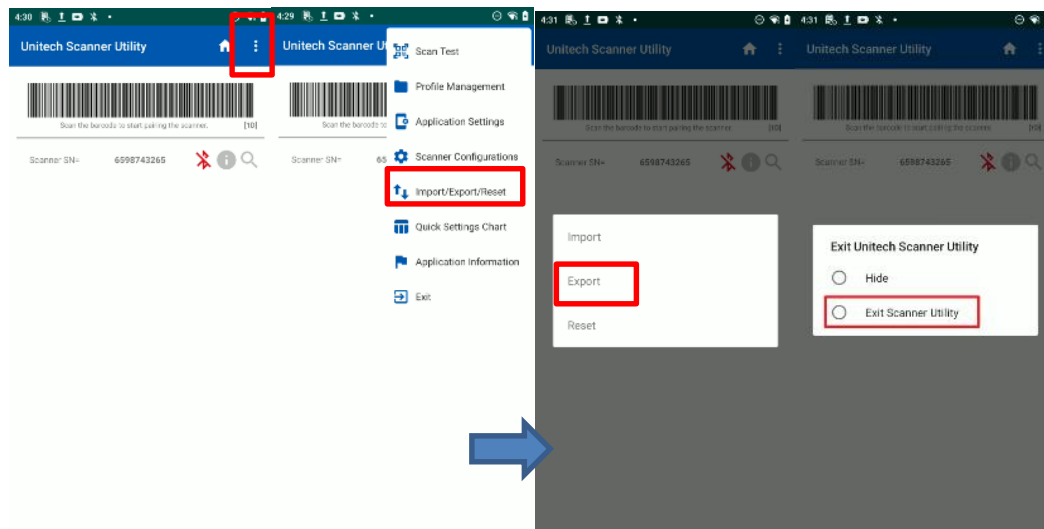

Figure 9.5.1
1. Export the config from USU (Figure 9.5.1)